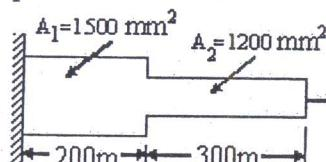

Figure.7
b) Consider axial vibration of the steel bar shown in Figure.7